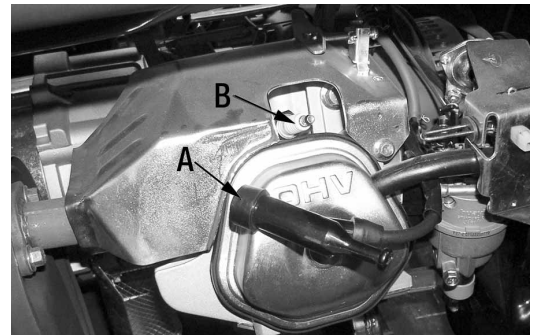

Figure 14
- 1) Dismantle the spark plug cap (A) Fig.14 by pulling it off the spark plug (B). Using the supplied spark plug wrench, undo the spark plug by turning it counterclockwise.